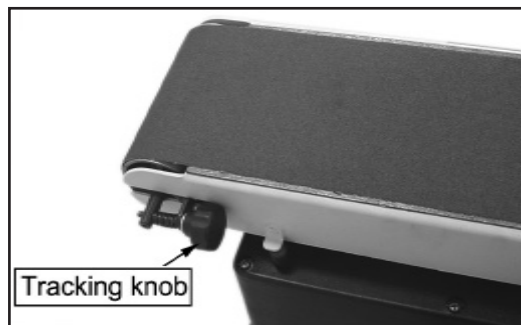

Fig. 10
2. If the sanding belt moves toward the disc, turn the tracking knob clockwise 1/4 turn. (See Fig. 10)